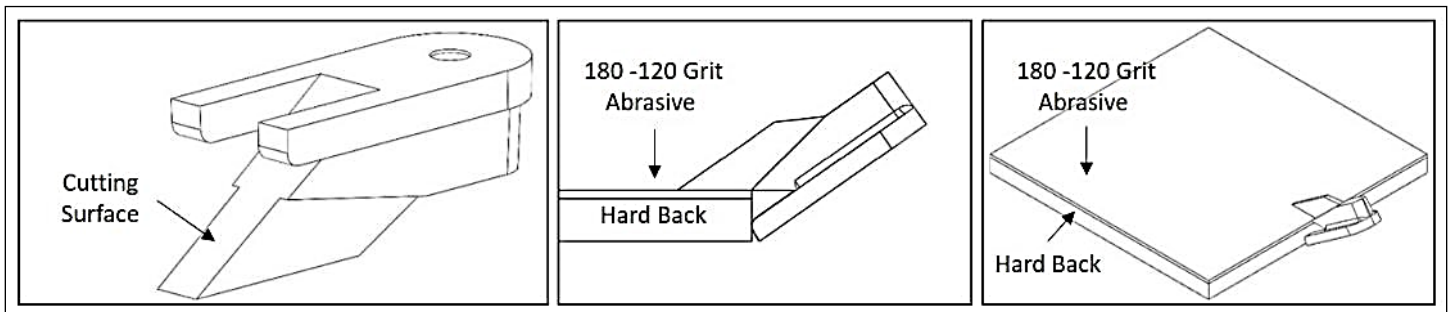

Figure 4. TGB Sharpening
3.1.4. To sharpen the TGB, use 180-120 grit abrasive paper on a flat hardback. Place the cutting surface of the TGB on the abrasive paper and move it back and forth on the abrasive paper until the TGB cutting edges have been restored. See **Figure 4**.